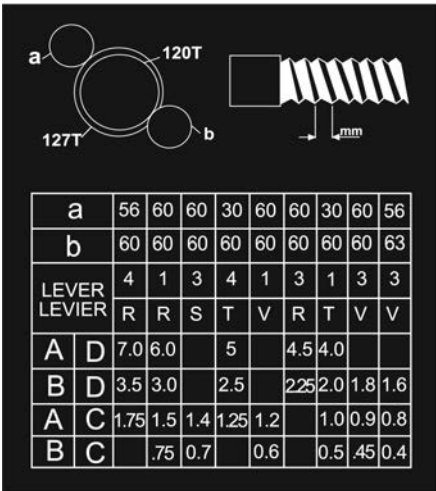

FIGURE 4- Metric Thread Pitch Chart
If you desire Metric Threads, mm change gears must be installed as indicated in chart Fig.4 and as described below.
Before changing gears, determine the threads per mm desired and look at which gear configuration is needed, see chart Fig.4 as reference. The large middle gear (A) Fig.16 is the only gear which does not get interchanged. To replace the top gear (B), remove nut (C) which holds it in place. Replace with appropriate gear and secure with nut. To replace the bottom gear (D), remove gear cap screw (E). Once the change gears are in place, reposition the side cover and lock it using the same lock nuts removed previously.